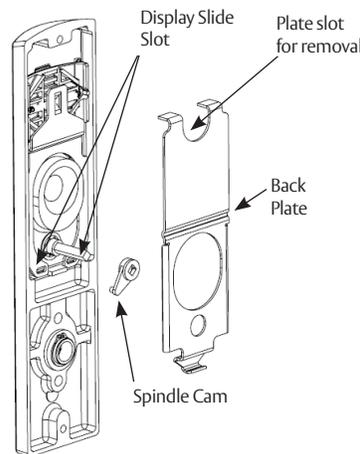

Figure 9
1. Remove indicator back plate by pulling out from top slot, then remove spindle cam from assembly. (Figure 9)
3. Slide spindle cam post into correct slot of display slide. (Figure 9)